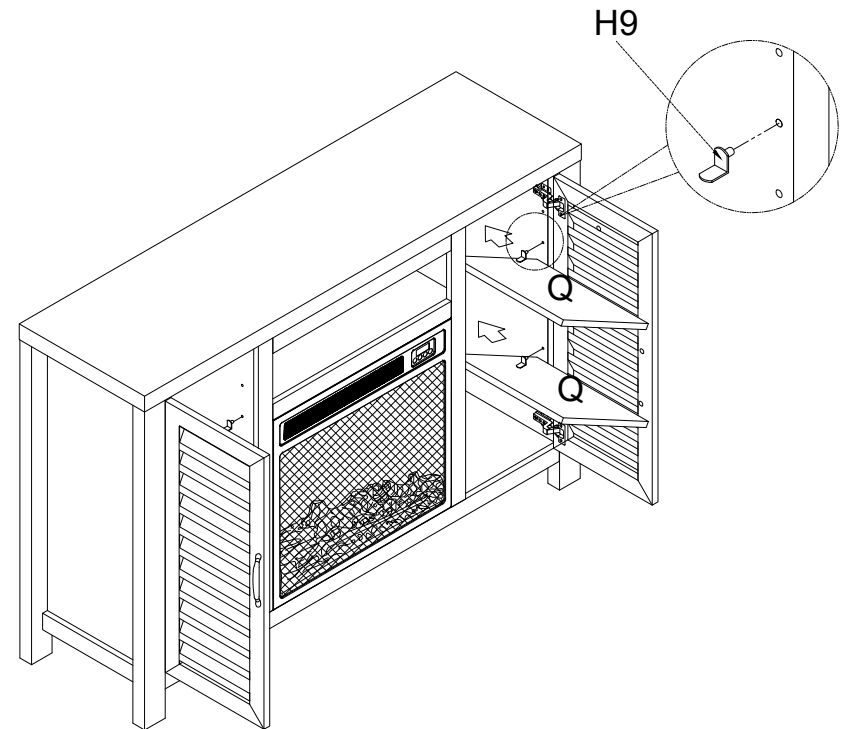

Figure 19
Insert Shelf pins (H9) into Left side panel (K), Left partition (G), Right partition (H) and Right side panel (J). Tilt Small shelf (Q) at an angle into the mantel and place it on Shelf pins (H9) as shown in figure 19.